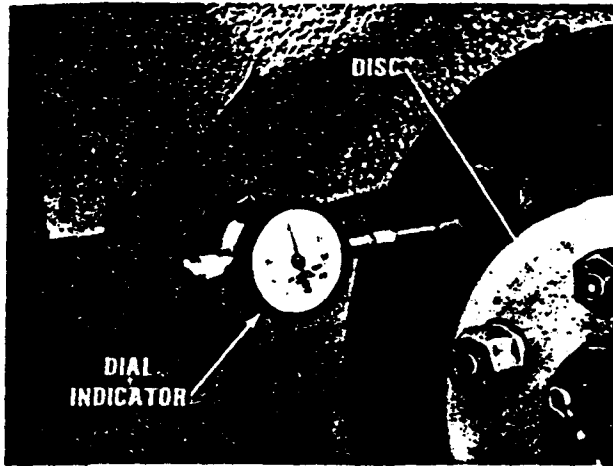

Fig. 23 — Measuring disc runout.
4. Mount a dial indicator to the steering arm, making sure that the plunger is in contact about one inch from the edge of the disc (Fig. 23).